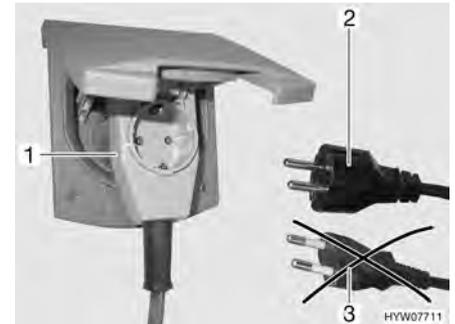

Fig. 137 Connecting an angled connector with socket
- ▶ When using a CEE 17 angled connector with rear socket (Fig. 137,1) only use a rubberised and sealed IP 44 socket with earth contact (Fig. 137,2). Do not use sockets without earth contact (Fig. 137,3). Danger of electrocution!